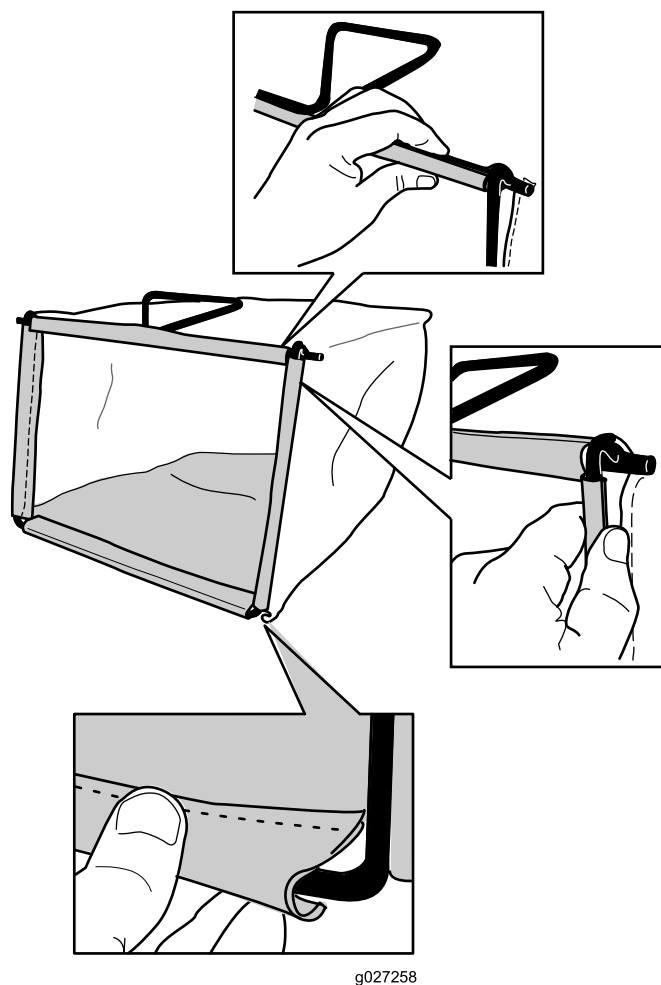

**Figure 7**
1. Slip the grass bag over the frame as shown in Figure 7.
**Note:** Do not slip the bag over the handle (Figure 7).